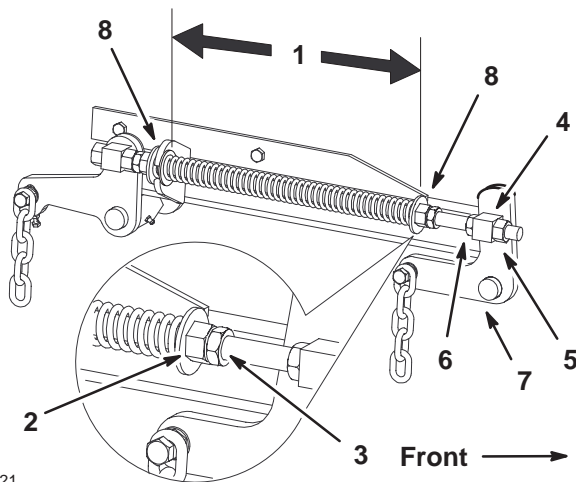

Figure 57
- Loosen the front swivel jam nuts, at the front of the right and left swivels, approximately a 1/2 inch (13 mm) (Fig. 57).
- Adjust the lift nuts on both the left and the right side of the machine to achieve **1/4 to 3/8 inch (6 to 10 mm) lower in front at A than in the rear at B** (Fig. 57).
1. Raise the mower lift lever to the transport position (Fig. 57).
2. Check the distance between the two large washers, it needs to be 10–1/4 inches (260 mm) (Fig. 57).
3. Adjust this distance, by loosening the spring jam nut and turning the nut in front of each spring (Fig. 57). Turning the nut clockwise will shorten the spring; counter-clockwise will lengthen the spring.
4. Lock the nut into position by tightening the spring jam nut (Fig. 57).